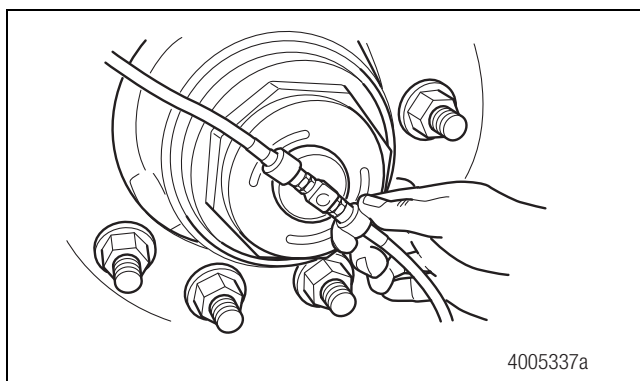

Figure 5.3
1. Remove the tire inflation system hose at the thru-tee. Figure 5.3.